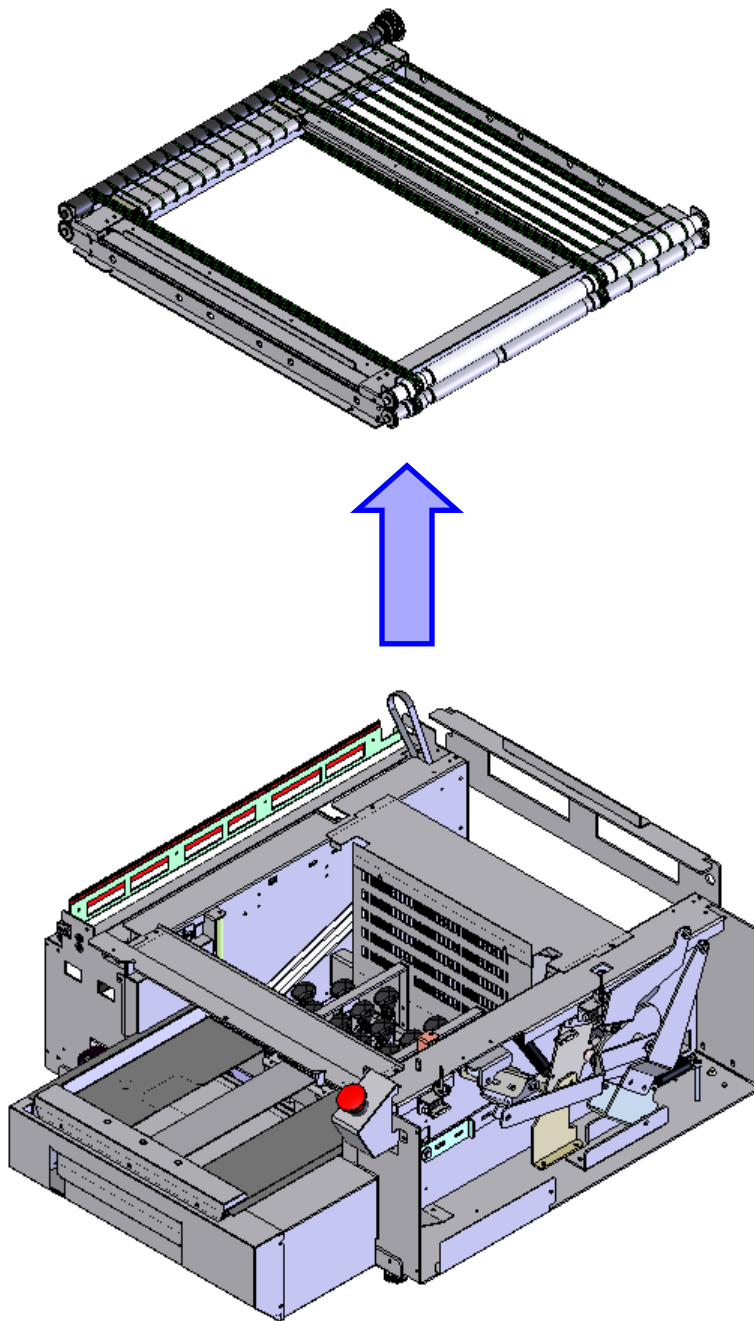

Figure 20.
24. Remove the Film Feeder unit. See Figure 20.